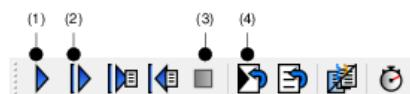

Figure 2.4: The basic execution buttons: (1) run continuously, (2) run step-by-step, (3) stop, (4) reset.
- Click Execute ⇒ Run or click the corresponding button (1) from the toolbar (see figure 2.4).